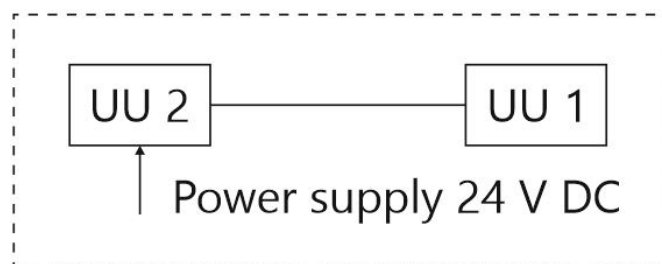

Figure 2 – Pair communication example of two UUs
a) **Pair communication** – to organize direct communication (w/o CU) of two UUs interconnected according to «point-point» pattern (see Figure 2). This type is supported by S1, S1W, S2, S3.